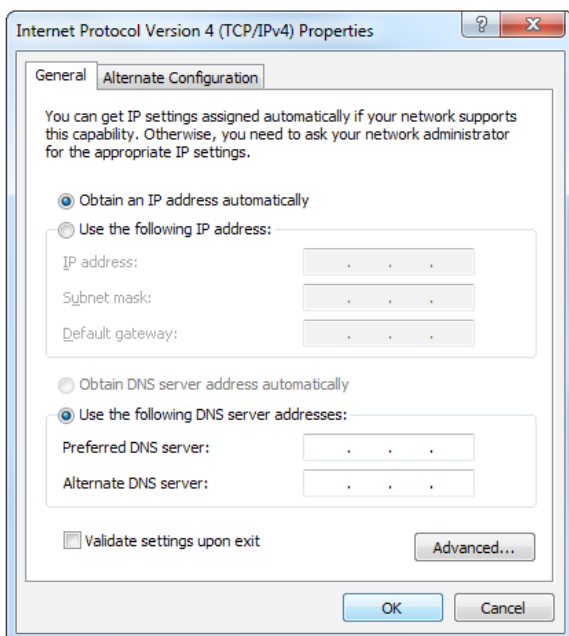
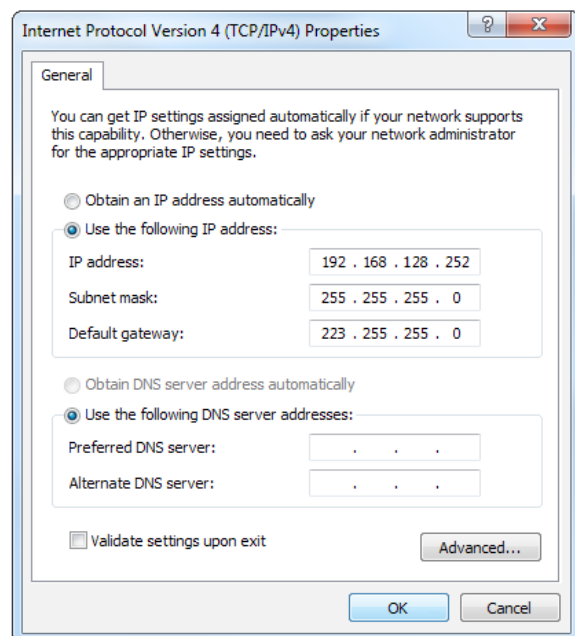

Figure 15 – Obtain an IP address automatically
Figure 16 – Using a static IP address
- When the Internet Protocol Version 4 (TCP/IPv4) Properties window opens, you will see that your computer is configured to either "Obtain an IP address automatically" (shown in Figure 15 below) OR "Use the following IP address" (using a static IP address, shown in Figure 16 below).